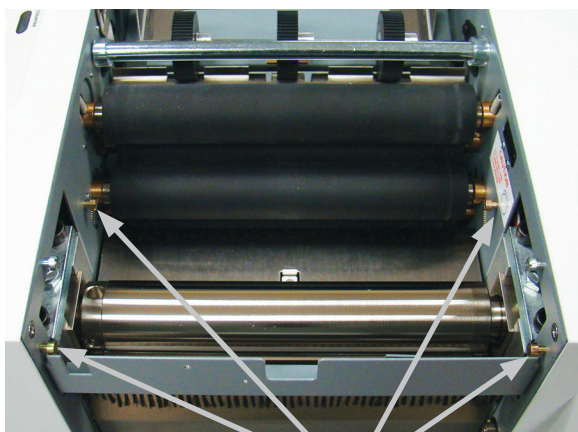

Figure 4a
4. To reinstall the upper fold plate, slide the plate (with thumbscrews facing up and the throat toward the inside of the machine) until the grooves on the underside line up with the four pins on the machine (figure 4a & 4b).